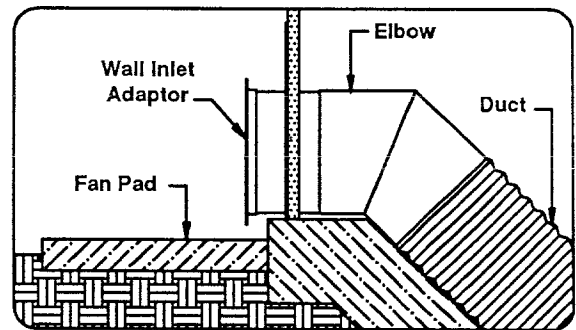
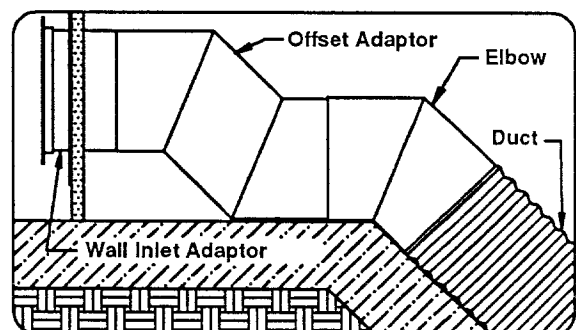

Figure 15. Typical Duct Elevation with Elbow
Figure 16. Typical Duct Elevation with Offset Adaptor and Elbow
**Before deciding where you will cut the hole for the wall adaptor, check with your structure manufacturer for hole cutting and hole reinforcement recommendations.** The Annular Corrugated Duct should be supported directly on the floor when installed. Determine the Wall Adaptor position so that the Annular Corrugated Duct going down the slope of the hopper bin will rest on the sloping floor. See **Figure 15**. If a horizontal ledge is present on a concrete hopper, such that the Elbow down the slope of the hopper can not be mounted directly through the wall, then an Offset Adaptor will be needed to duct the air to the edge of the hopper is illustrated in **Figure 16**. (Figure 16 shows a typical elevation.)